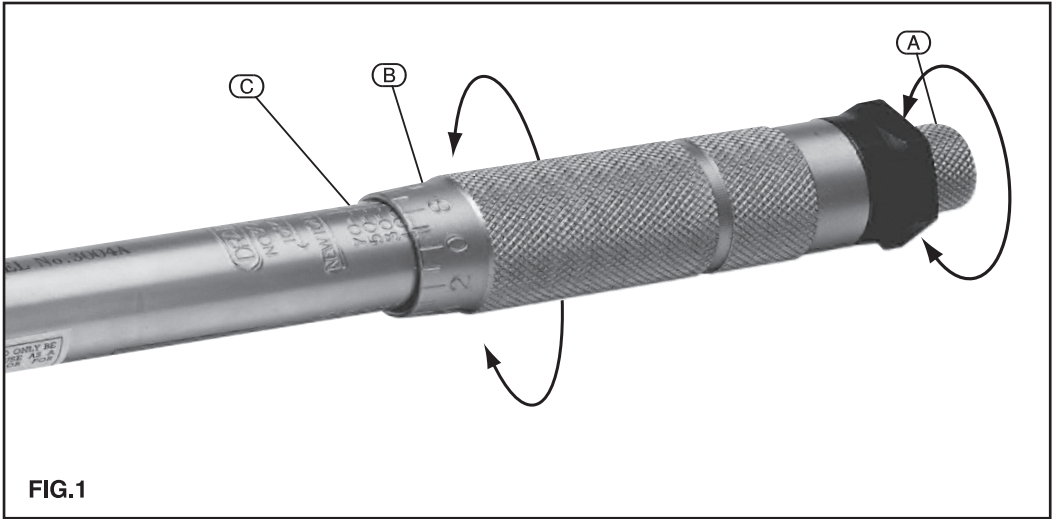

FIG.1
8.1 OPERATION INSTRUCTIONS - FIG. 1
1. Unlock handle (Fig.1) (Page 9).
4. Lock handle (Fig.1) (Page 9).